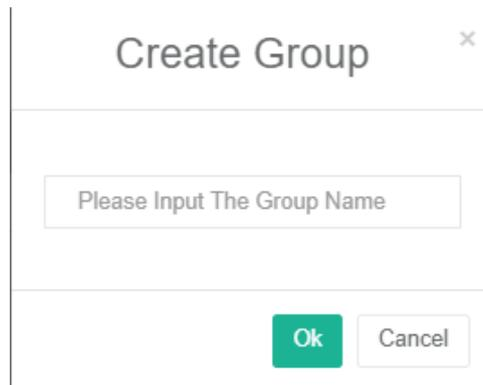

Figure 5-5
- 4) Click "Add new group" button to open setting screen, as shown in Figure 5-5;